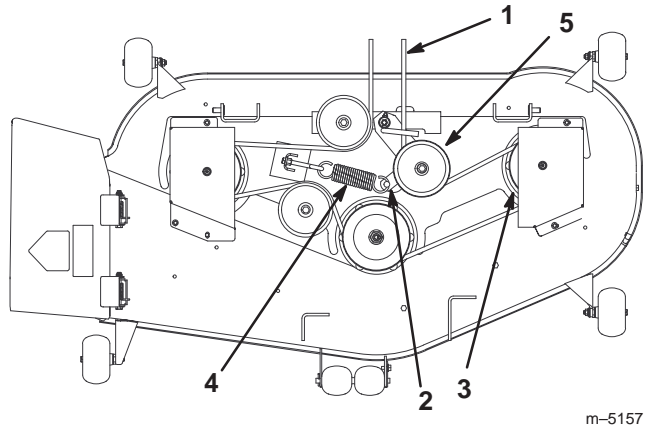

Figure 44
5. Remove the belt. Start at the outside pulley and rotate the belt off (Fig. 44).
8. Reinstall the idler pulley and route the belt onto the other pulleys (Fig. 44).